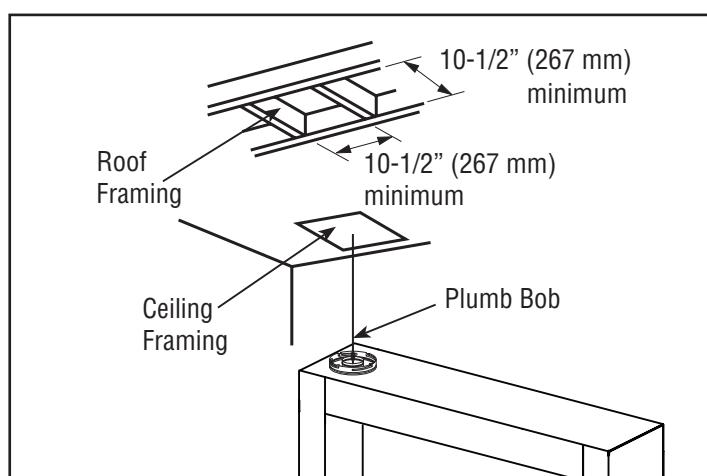

Figure 17 - Framing the ceiling opening
3. **Frame the ceiling opening**—If the vertical route is to penetrate a ceiling, use plumb line to locate the center above the fireplace. Cut and/or frame an opening, $10\frac{1}{2} \times 10\frac{1}{2}$ " (267 x 267 mm) inside dimensions, about this center (*Figure 17, Page 19*).
2. **Frame the ceiling opening**—Use a plumb line from the ceiling above the fireplace to locate the center of the vertical run. Cut and/or frame an opening, 10 1/2 x 10 1/2" (267 x 267 mm) inside dimensions, about this center mark (**Figure 17**).